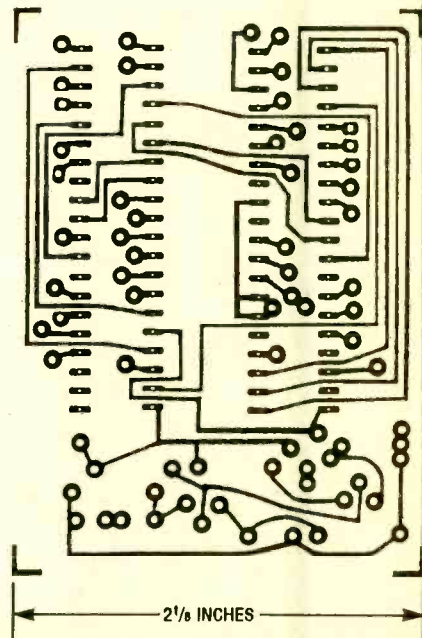

Fig. 4. Here's the full-size template for the counter/display board.
**Construction.** The author's prototype of the frequency counter was assembled on two printed-circuit boards, which the author refers to as the digital board and the counter/display board. Full-size templates of the circuit-board patterns are shown in Fig. 3 and Fig. 4, respectively. Parts placement diagrams for the digital board and the counter/display board are shown in Fig. 5 and Fig. 6, respectively.